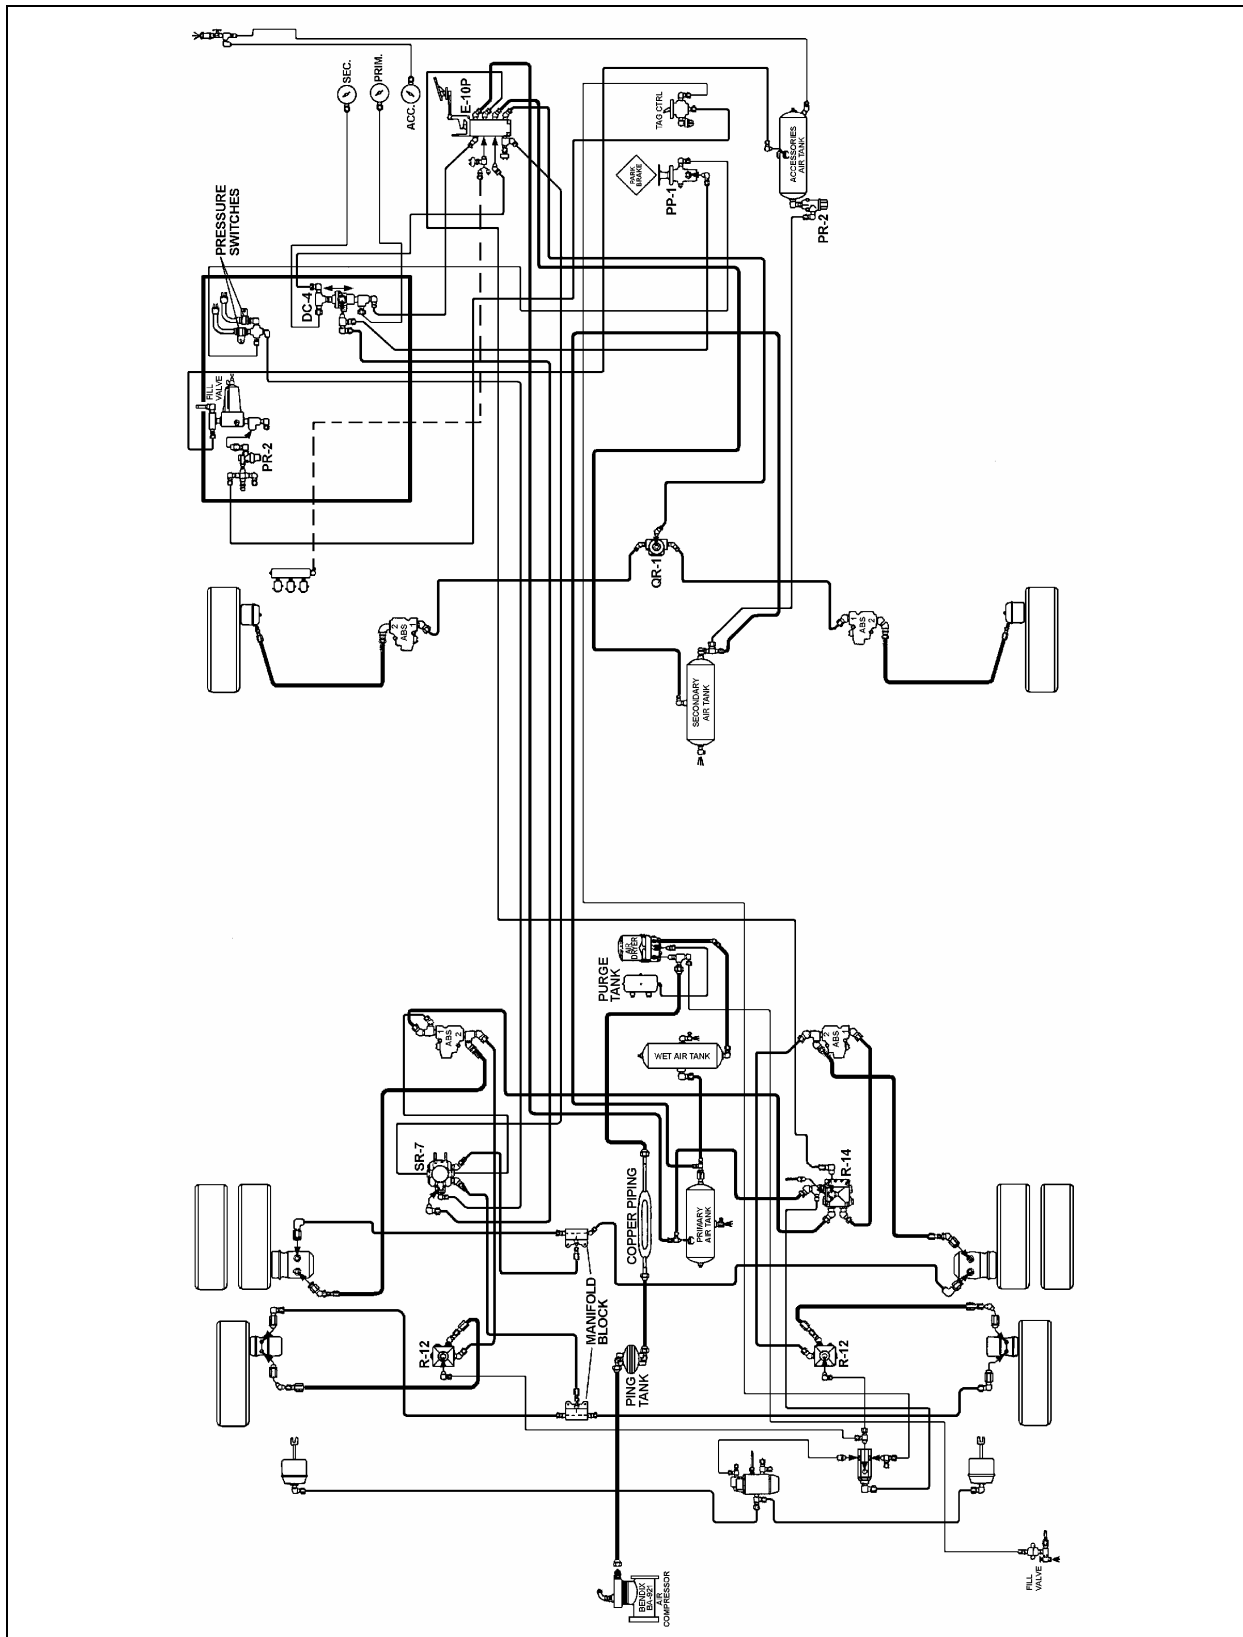
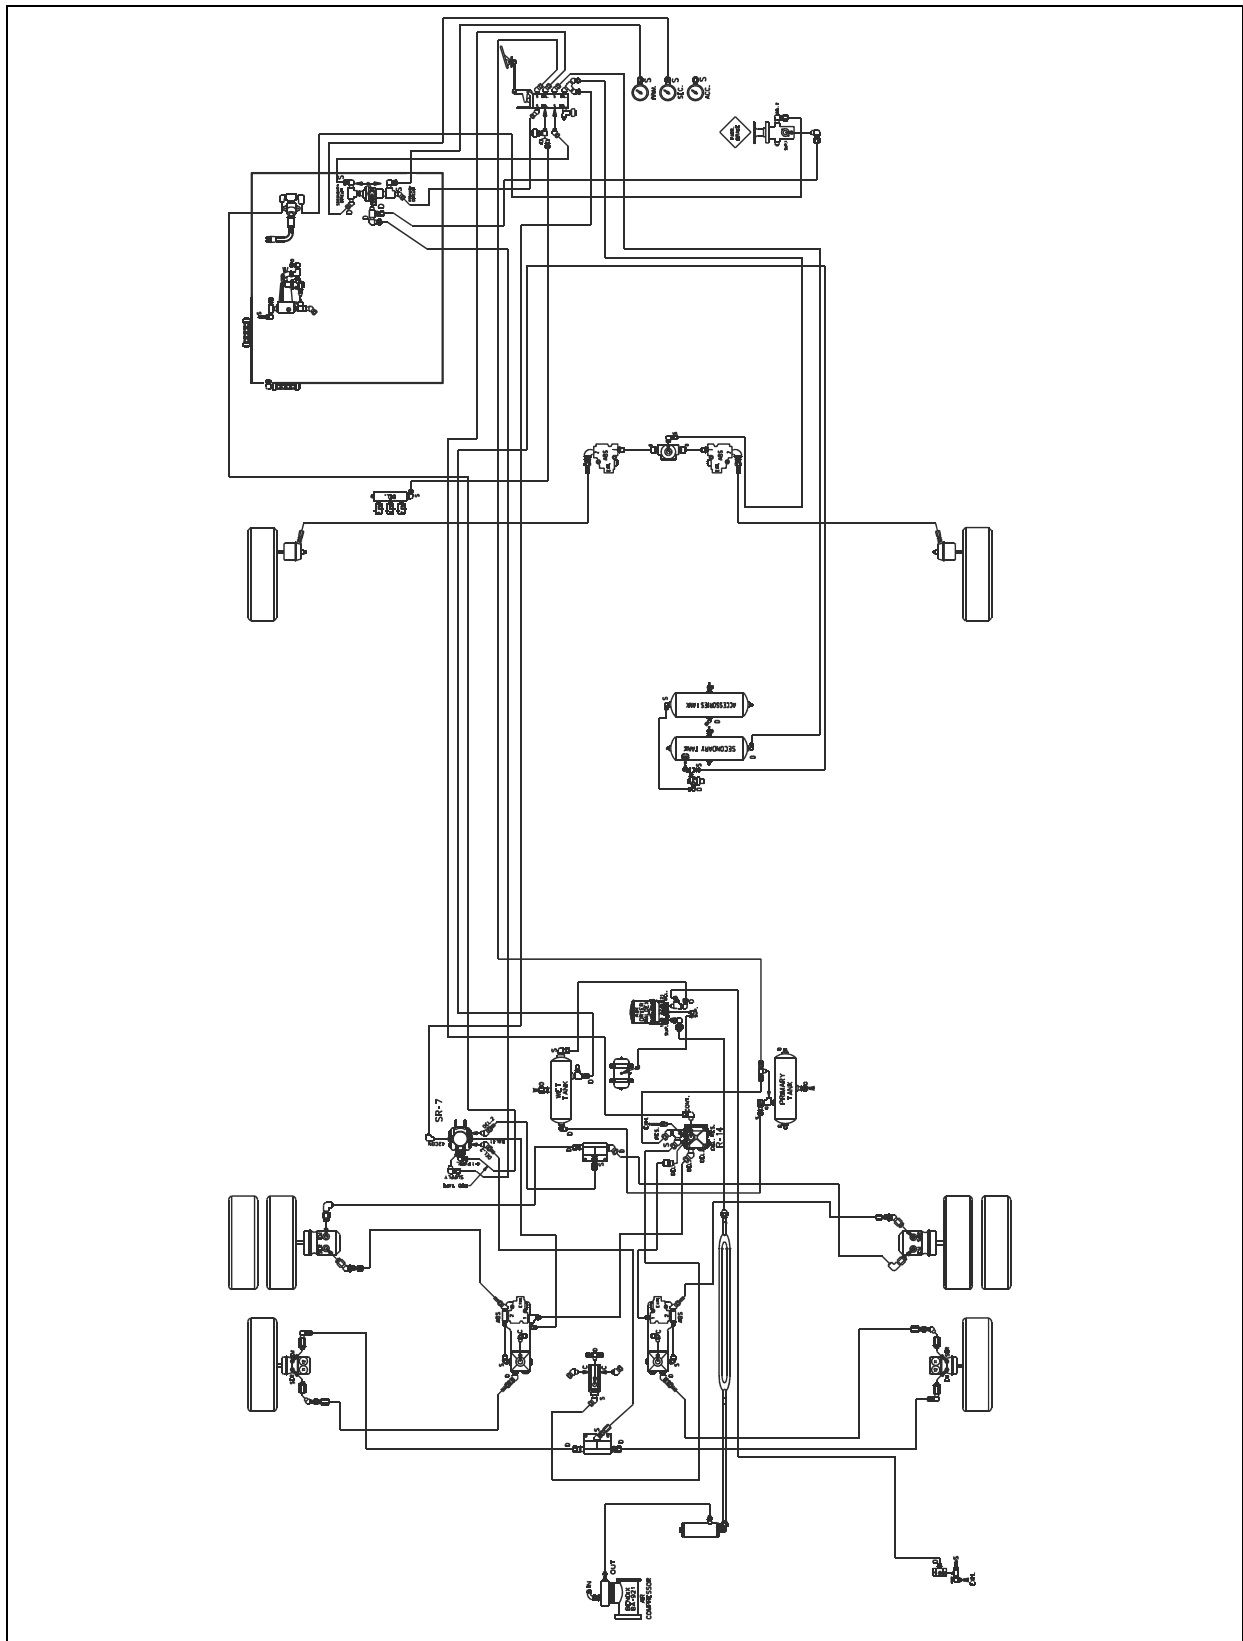

FIGURE 2: AIR-OPERATED BRAKING SYSTEM H3
FIGURE 3: AIR-OPERATED BRAKING SYSTEM FOR X3 COACHES EQUIPPED WITH I-BEAM AXLE FRONT SUSPENSION
2. The spring brake valve is located above the drive axle, behind the L.H. side hinged rear fender (Refer to figure 2 for H3 vehicles) or in the rear underframe (Refer to figures 3 & 4 for X3-45 coaches).